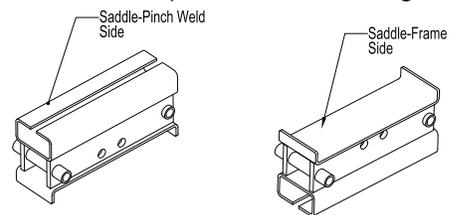

Figure 2 - Saddle Configuration
1. Verify that the product and the application are compatible, if in doubt call **Technical Service (888) 332-6419**. Read the owner's manual completely and familiarize yourself thoroughly with this product, its components, and recognize the hazards associated with its use.
2. Assemble the dolly as shown in Figure 2.
**NOTE:** The saddle has a flat side meant to go under frame rails and a slotted side meant to be used a pinch weld. Use the appropriate side for you application, Figure 2